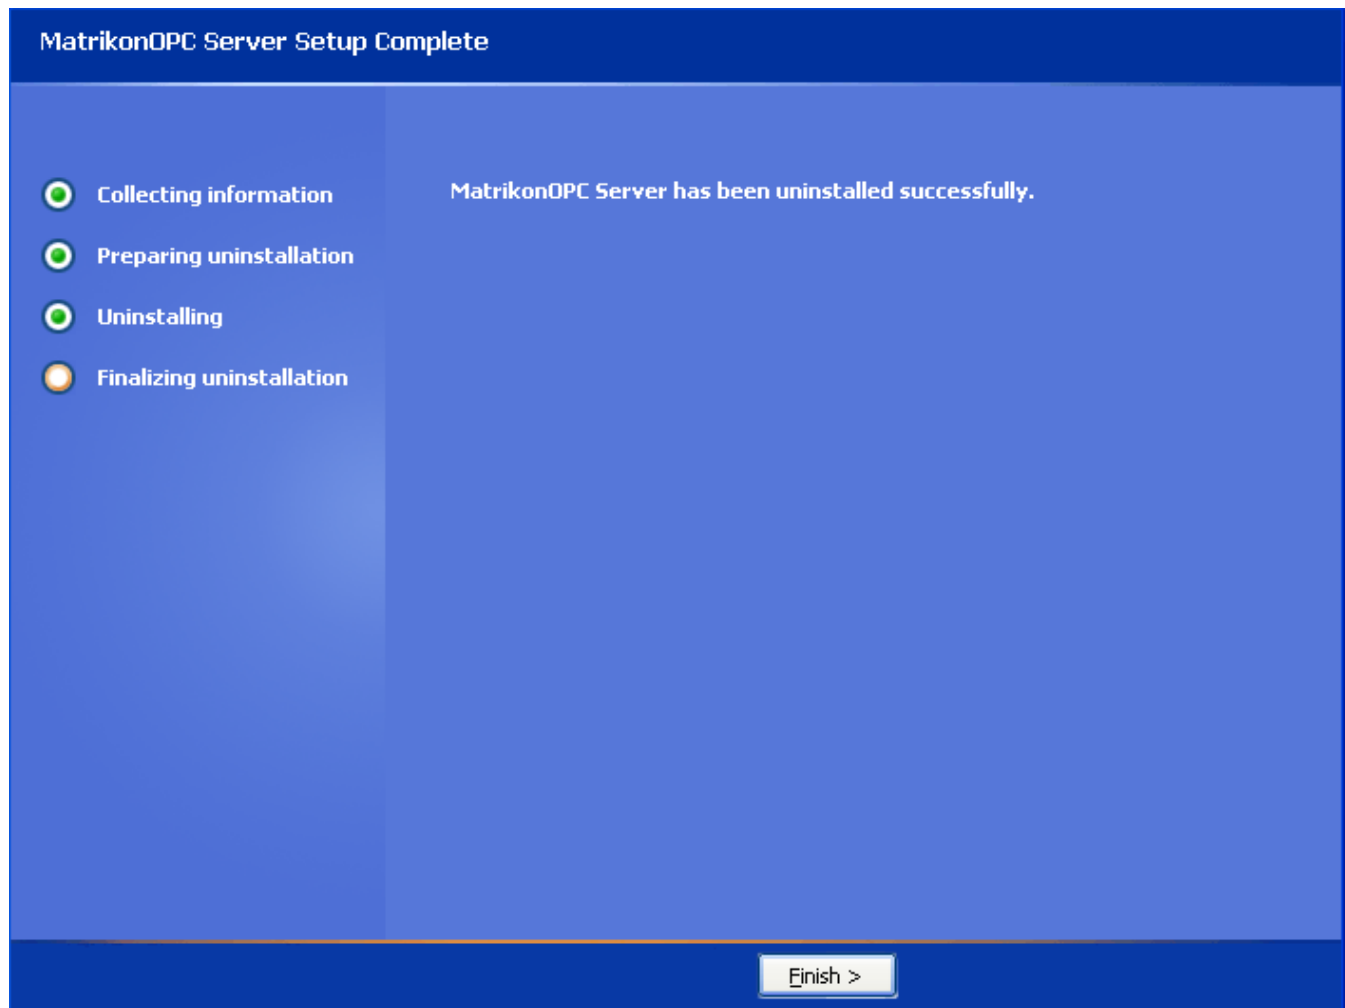

Figure 98 - MatrikonOPC Server for SCADA Modbus Setup Complete Screen
11. When the un-install has finished, the **MatrikonOPC Server for SCADA Modbus Setup Complete** screen (Figure 98) appears stating that MatrikonOPC Server for SCADA Modbus was successfully un-installed.